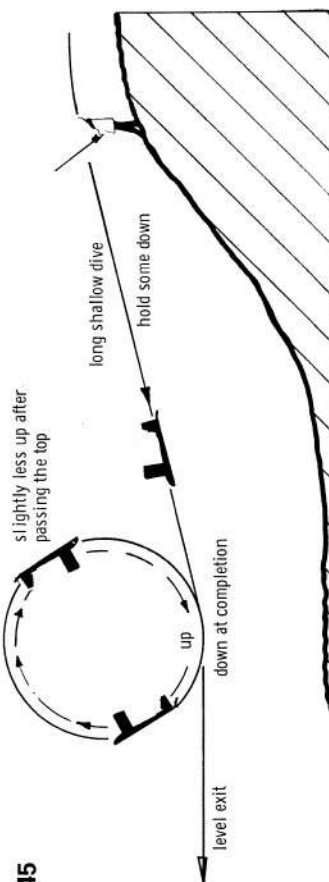

Fig. 45
**The loop.** Head the model into the wind and make a long, fairly shallow dive, to gain speed. Then ease the stick back until the model is upside-down. Now gently let off some of the back-stick to keep the loop nice and round. How this is done will depend on the individual model, and trial-and-error will be necessary to achieve a good round loop. As the model returns to the straight and level attitude once more, press in some down, so as to make a clean and level exit, without zooming up again. Fig. 45 shows the sequence.